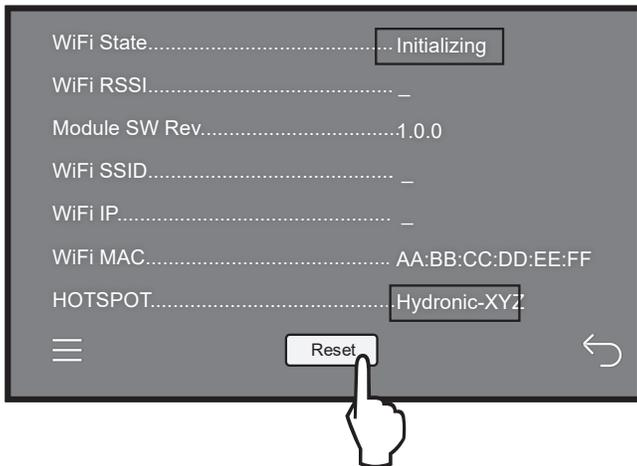
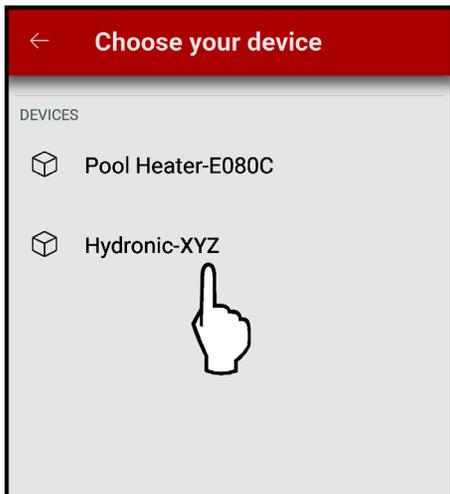

Figure 9. Wi-Fi Initializing and HOTSPOT Identifier
Figure 13. Choose Your Device
2. The Wi-Fi status screen should display the Wi-Fi State, indicating "Initializing" wireless connection, and also the HOTSPOT identifier. See **Figure 9**.
NOTE: If the Wi-Fi State does not indicate "Initializing", press the "Reset" button on the touchscreen. See Figure 9.
4. Depending on your configuration, one or more hotspots will appear on the screen of your mobile device. See **Figure 13**. Select the **HOTSPOT identifier that matches the unit's touchscreen as shown in Figure 9**.
5. Select the HOTSPOT identifier that matches the unit's Touchscreen as shown in **Figure 9**.